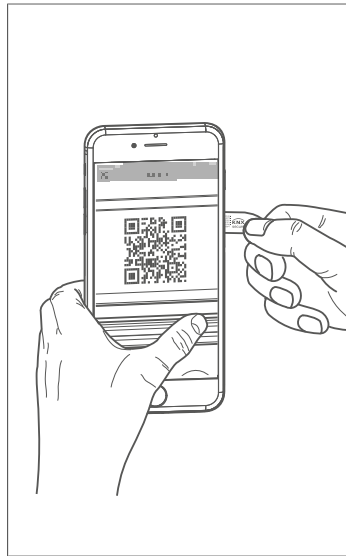
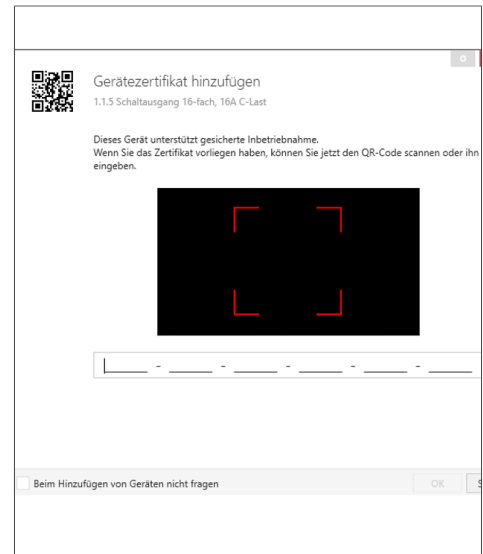

Fig. 10: Scanning the QR code
Fig. 11: Entering the QR code manually
- 2 Enter the device certificate (QR code) (Bild 11), scan it (Bild 10) or add it to the project in ETS.